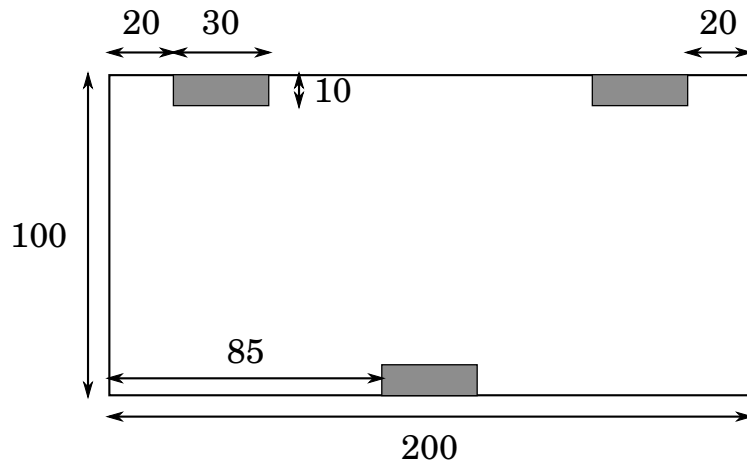

Figure 2: The dimensions of the required robot badge mountings. The shaded areas are hook-type Velcro. All dimensions are in millimetres.
3.2.2 A robot must feature four of the badge mounts shown in figure 2. These mounts must permit a flat  $200 \times 100mm$  panel to be attached to them. The three areas of each mount must feature the illustrated areas of hook-type Velcro to allow this panel to be fitted.